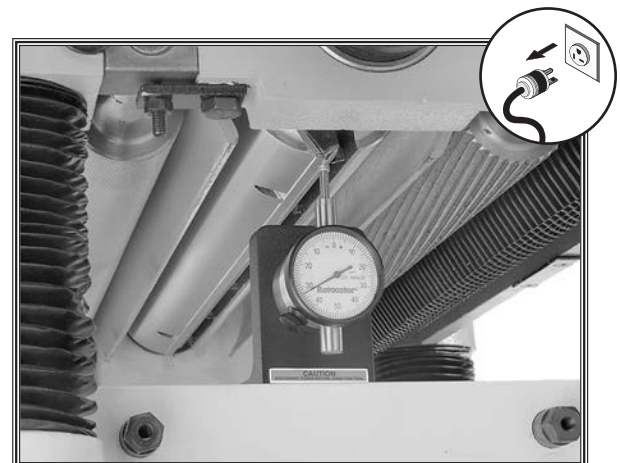

Figure 43. Example of using a Rotacator to find BDC.
5. Using your Rotacator, find bottom dead center (BDC) of any knife/insert edge by slowly rocking cutterhead pulley back and forth, then set Rotacator dial to "0" (see Figure 43).